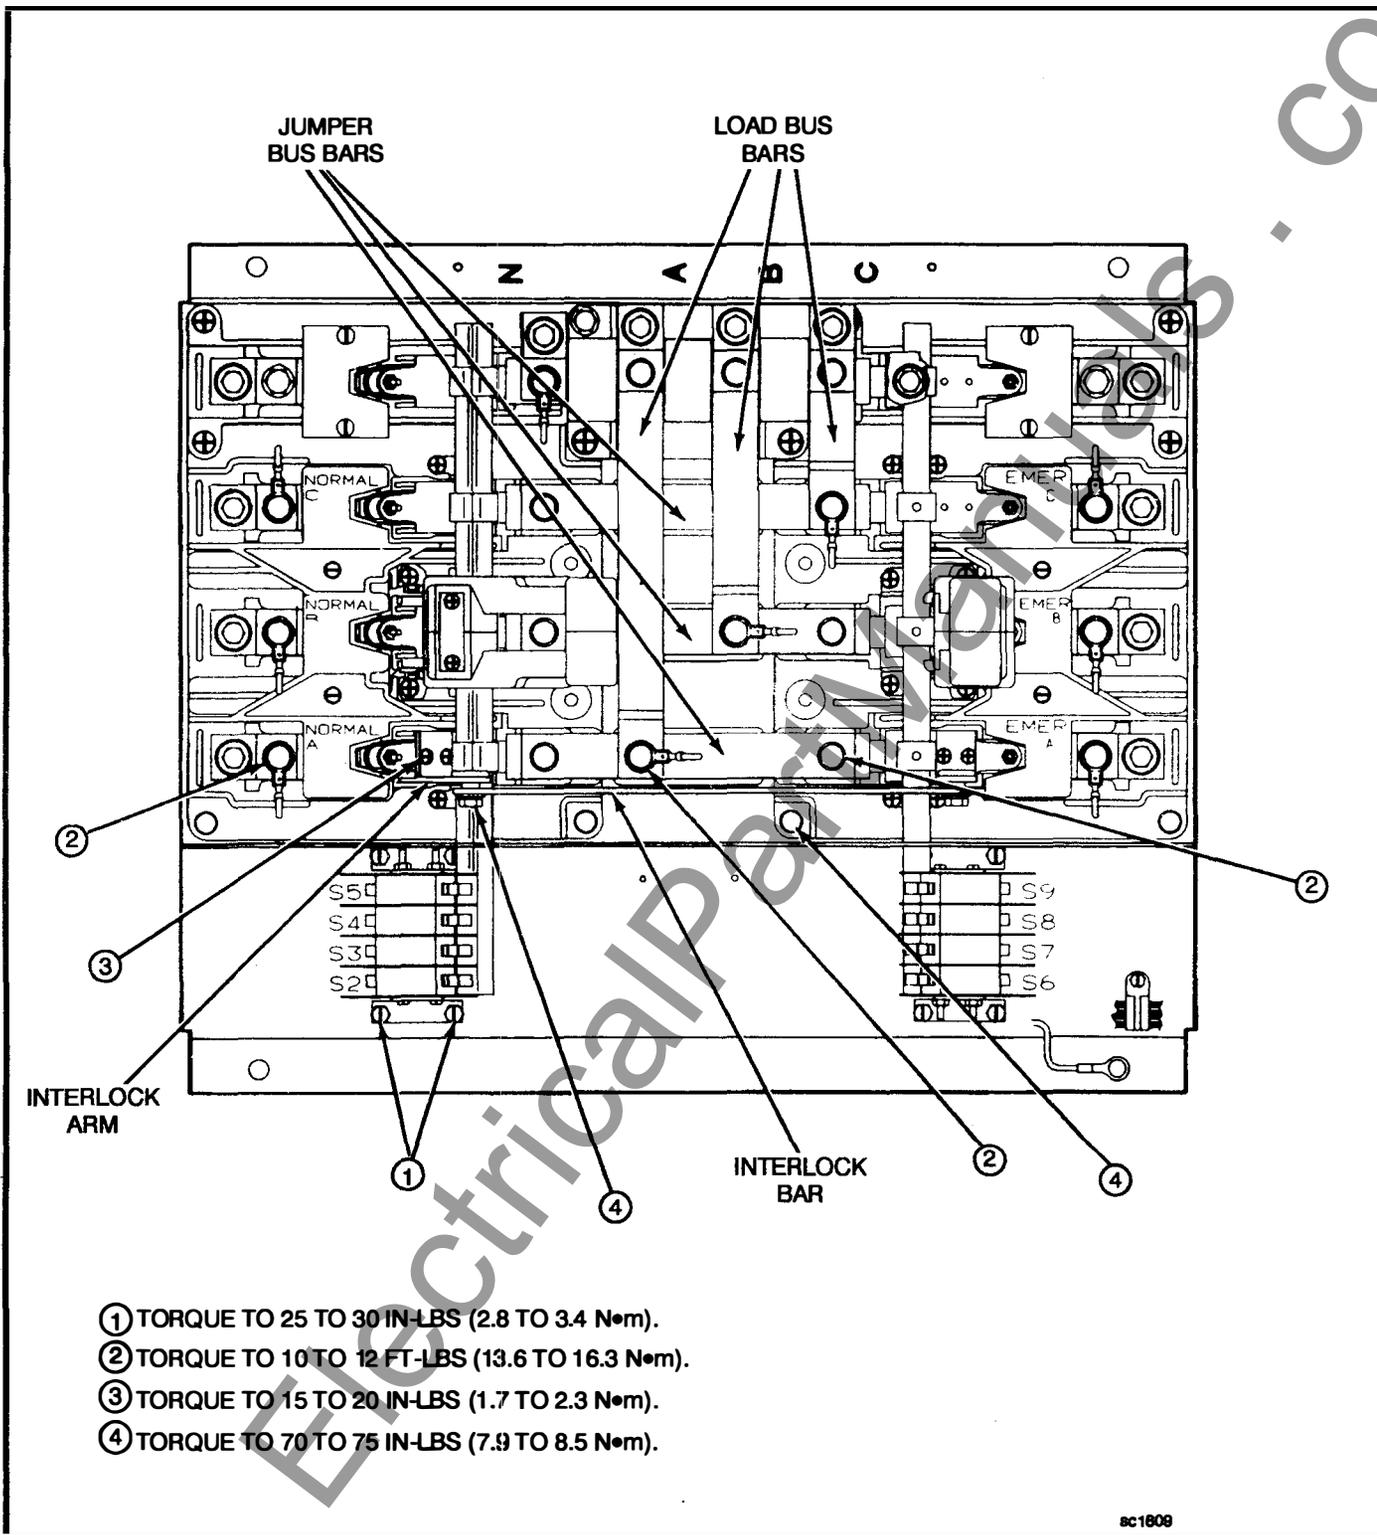

FIGURE 4-9. 4-POLE SWITCH ASSEMBLY (150 TO 260 AMPERES)
8. **On 4-pole switches (Figure 4-9):** Before the block and cross-bar assembly can be removed, the neutral block assembly must be loosened and pivoted slightly out of the way.
11. **On 4-pole switches (Figure 4-9):** With a screwdriver, dig the glue out of the cavity in the base of the neutral block. Remove the machine screw that secures the neutral block, and remove the neutral block.
4. **On 4-pole switches (Figure 4-9):** Secure the neutral block with the machine screw that was removed from the center hole. Tighten to 70 to 75 in-lbs (7.9 to 8.5 N•m) torque. Fill the cavity in the block with adhesive silicone to completely cover the screw head. Pivot the neutral block to permit placement of the block and cross-bar assembly.
6. **On 4-pole switches (Figure 4-9):**